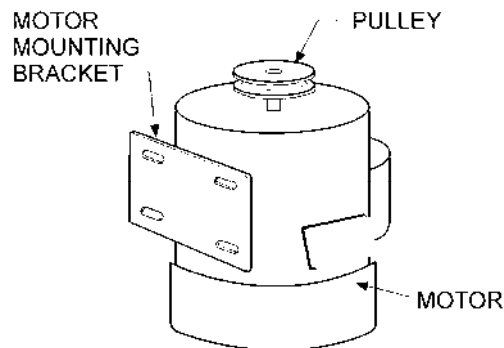

Figure 11
1. Carefully set motor on its end with the pulley at the top, as shown in Figure 11.